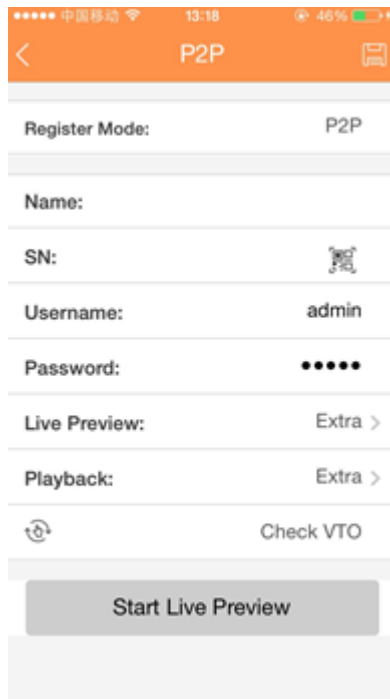

Figure 4-177
3. Tap Device manager button, you can use several modes (P2P/DDNS/IP and etc.) to add the device. Click  to save current setup. Tap Start Live preview to view all-channel video from the connected device. See Figure 4-177.